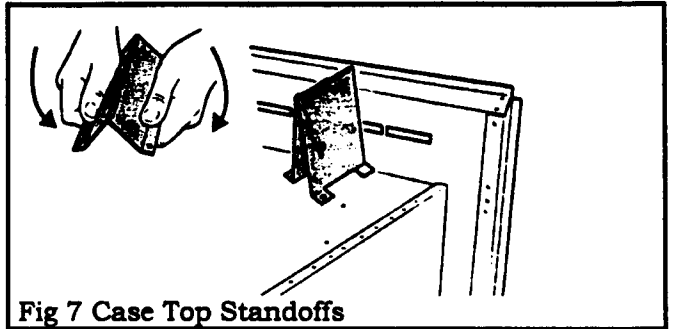

Fig 7 Case Top Standoffs
6.4 Bend the two case top standoffs and fit them to the top of the case with the #8 thread cutting screws (four screws per standoff) (Fig. 7).